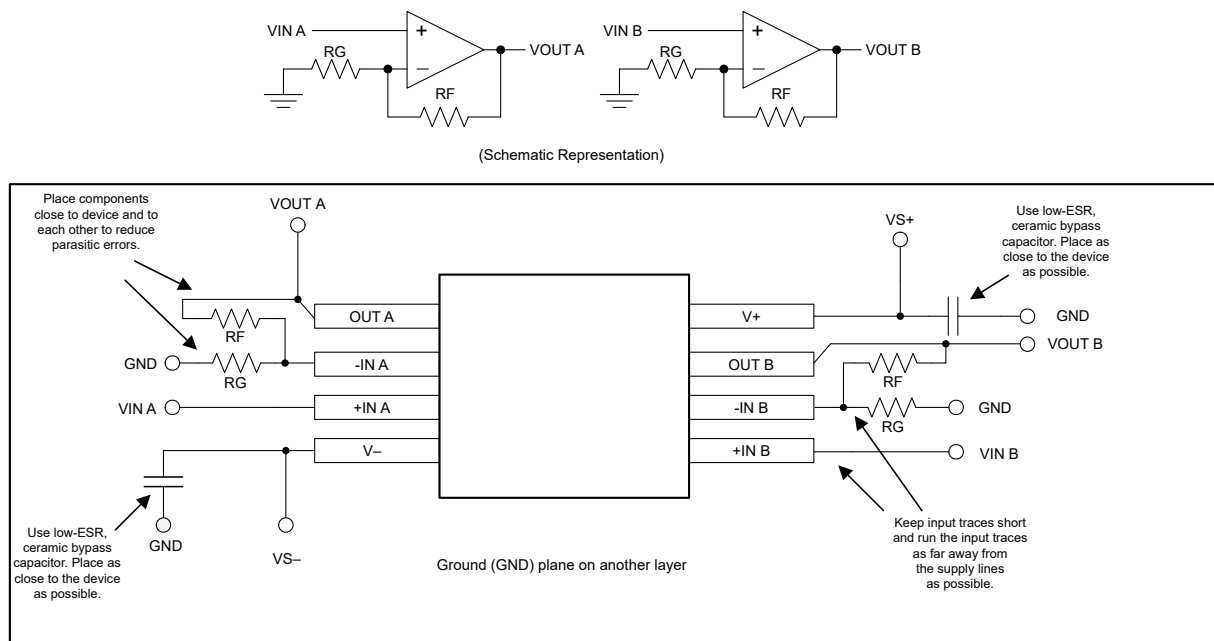

Figure 8-8. Layout Recommendation for TLV2365 SOIC Package
- Place the external components as close to the device as possible. Figure 8-8 shows that keeping  $R_F$  and  $R_G$  close to the inverting input minimizes parasitic capacitance.